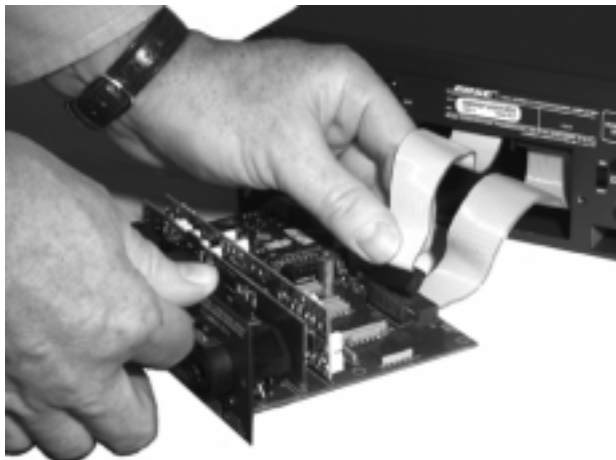

Figure 6. ACM-1 J1 Ribbon Cable Connection
2.2 Connect the amplifier's ribbon cable to the ACM-1 module J1 connector. Pin 1 (red stripe) of the ribbon cable is to the right. See Figure 6.